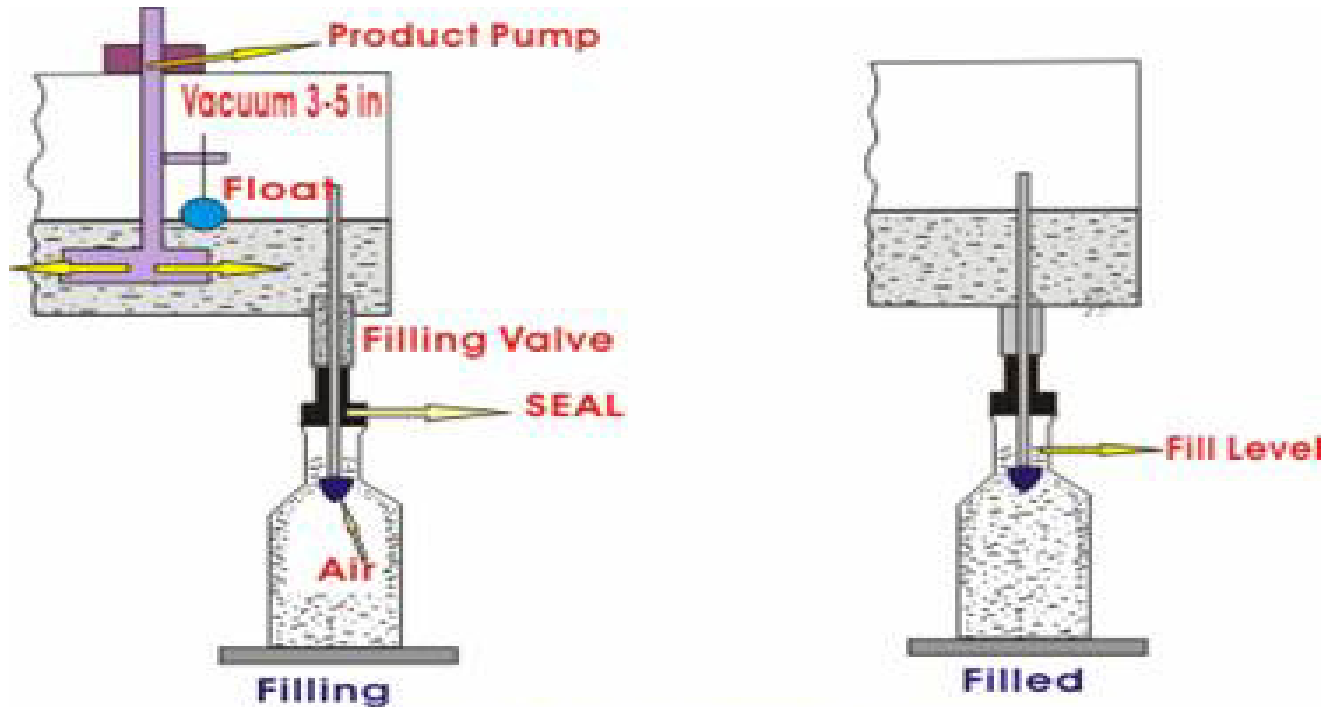

Figure 20.16 Gravity vacuum filling
- Combining the features of both the gravity and the vacuum systems(Figure 20.16).